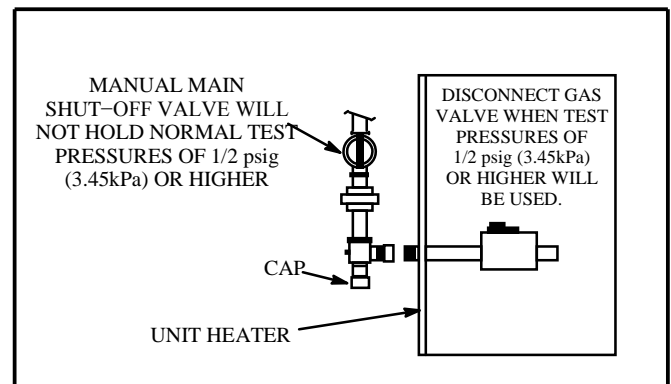

FIGURE 9
The heater and its individual shut off valve must be disconnected from the gas supply piping system during any pressure testing of that system at test pressures in excess of 1/2 psig (3.45kPa). See figure 9.
- 2) After line pressure has been checked and adjusted, check regulator pressure. Correct manifold pressure is shown on the unit rating plate. See figures 9 and 10 for gas pressure adjustment screw location. A natural gas to LP/propane gas changeover kit is required to convert the unit in the field. Refer to installation instructions provided with changeover kit for conversion procedure.